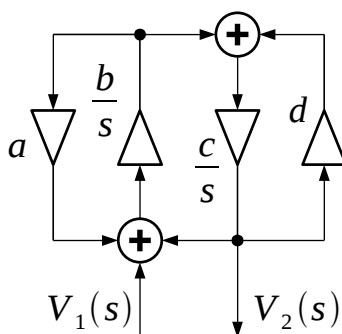

Figure 5.1: Second-order leapfrog approach...
using the leapfrog approach (see Figure 5.1 for an outline and suggested starting point for your work). All the three parameters  $K$ ,  $\omega_0$ , and  $Q$ , are positive numbers. We can set the DC gain of the filter to unity and the cut-off frequency to be 10 MHz. We can set the quality factor to  $1/\sqrt{2}$ .
- 1) Realize the filter using active RC components! Use a minimum number of single-ended operational amplifiers. Use Figure 5.1 as a guidance.